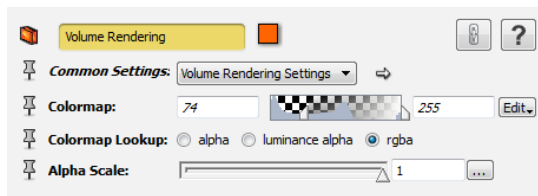

Figure 3.31: Volume Rendering Properties panel
- Select the *Volume Rendering* module in the Project View and view its colormap port in the Properties panel (see Figure 3.31).